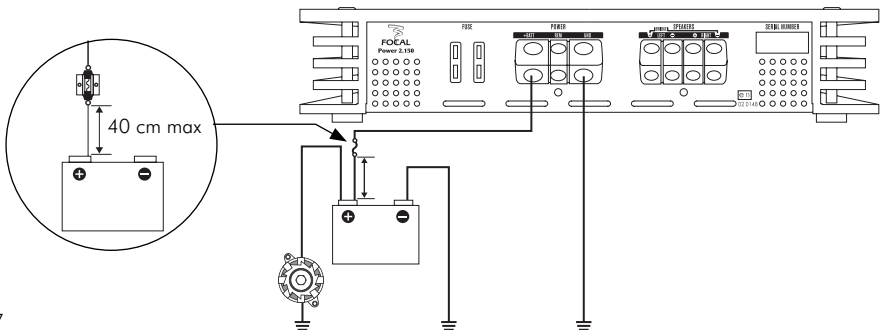

fig. 7
- 9 - Always protect the battery and electrical circuit from potential damages with the help of fuses. Install a fuse holder and suitable fuses on the 12V positive (+) power cable at less than 40cm from the battery terminal. Ideally, this abovementioned distance should be the shortest possible. (fig. 7).
3.7.1 - You can now start the fuse-holder (the role of which is to make the system safe) installation phase. The fuse-holder must be connected on both sides to the positive (+) power supply cable. It has to be near the battery (i.e. 10cm - 40cm from the battery). Disassemble the fuse-holder, taking care to remove the fuse. Attach the base of the fuse-holder. Cut the red power supply cable at a distance of between 10cm and 40cm (maximum) from the battery. Retain the cable you do not use here, as it will be used later, to link the other end of the fuse-holder to the positive (+) terminal of the vehicle's battery. Strip 1cm of the cable end, then tin it. Screw the cable into the fuse-holder binding post terminal. Do not throw away the spare cable that is left over. Strip 1cm of the cable end, then tin it. Screw the cable into the other fuse-holder binding post terminal (fig. 7).